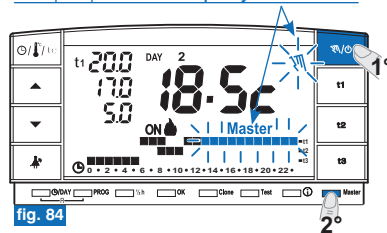

fig. 84
- briefly press the “ M/O ” key on the MASTER chronothermostat to enter into temporary manual operation; appears blinking symbol “ M ” (see details in paragraph 7.1 point A) (example in fig. 84).